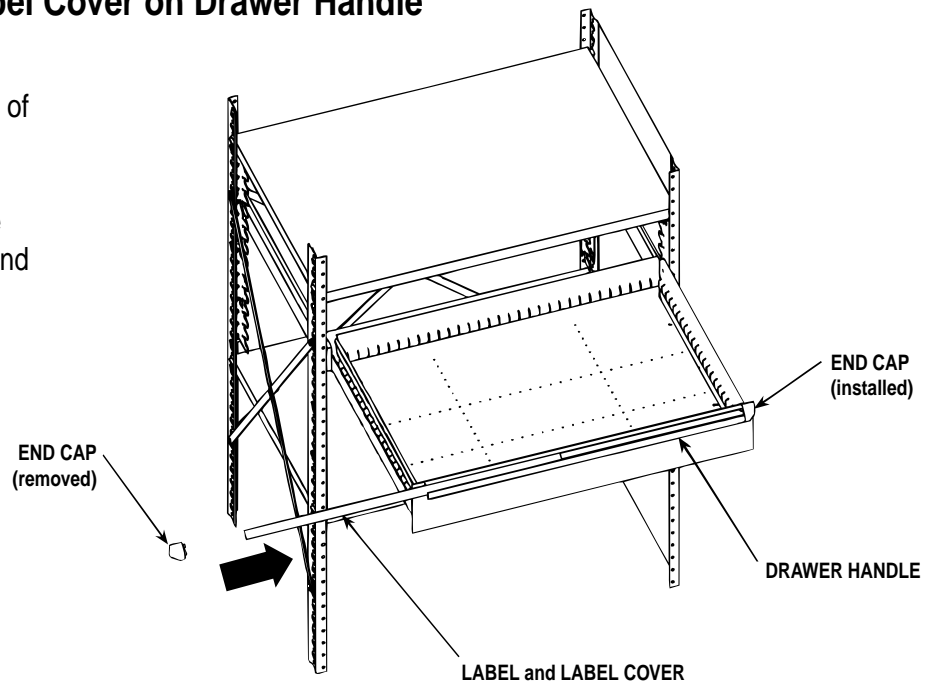

FIGURE 6
1. Remove plastic end cap from either end of drawer front. (See Figure 6)